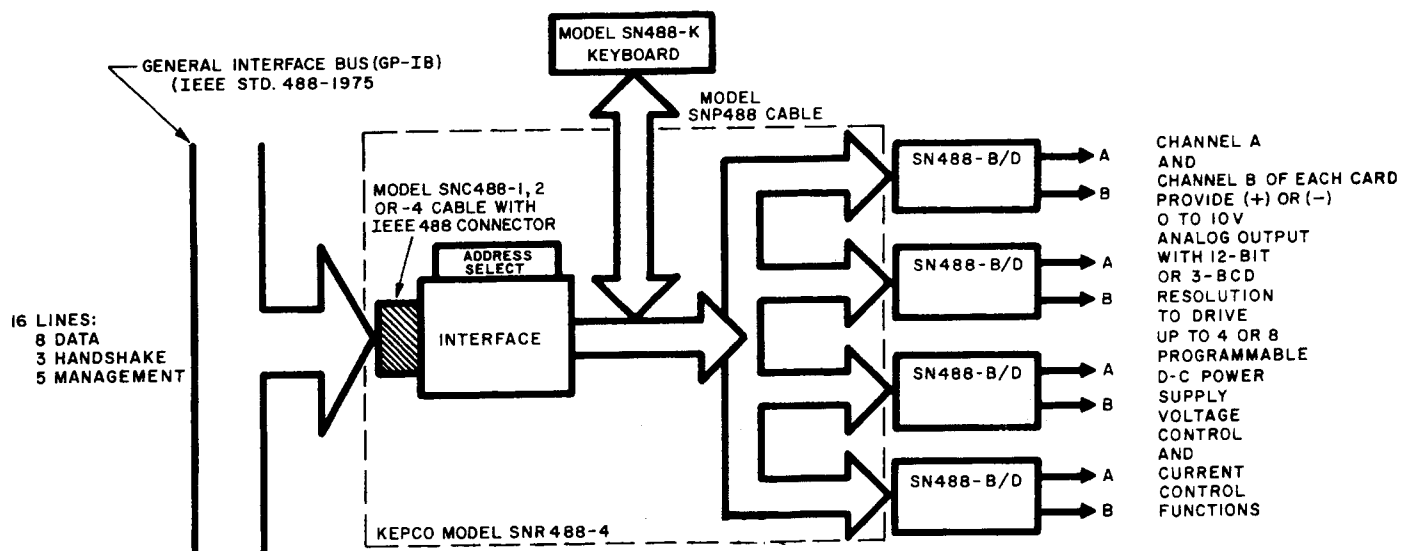

FIG. 1-1 BLOCK-DIAGRAM, KEPCO 488 PROGRAMMING SYSTEM (EXAMPLE)
1-5 The KEPCO SN 488 PROGRAMMING SYSTEM is designed to interface Kepco's programmable power supplies with the GENERAL PURPOSE INTERFACE BUS (GPIB), per IEEE STD. 488-1975. A typical Kepco SN 488 PROGRAMMING SYSTEM is shown in the form of a block diagram in FIG. 1-1. The system as shown, consists of the Model SNR 488-4 Rack Housing with interface card, four (4) plug-in Model SN 488-B or SN 488-D Programming Cards, a Model SN 488-K Keyboard with Model SNP 488 Cable, the bus connecting cable Model SNC 488 plus the programmable Kepco power supplies. Since each Model SN 488-B or SN 488-D Programming Card has two independent control channels, the system shown in FIG. 1-1 can program four (4) power supplies , providing independent control of each supply's voltage and current channel for example.